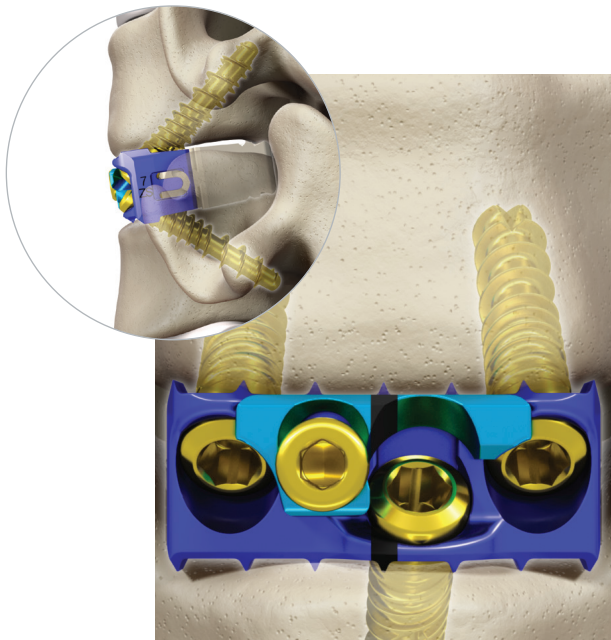

Figure 34
- Completely engage the driver in each screw head and fully seat all bone screws (Figure 34).